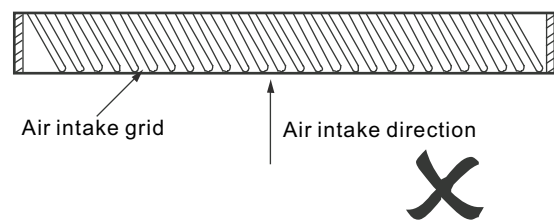

Figure 3.12
2) There shall not any angle between the air grid angle and the air intake direction. Otherwise, it may increase the noise. Figure 3.12 is the incorrect making method of the air intake grid.